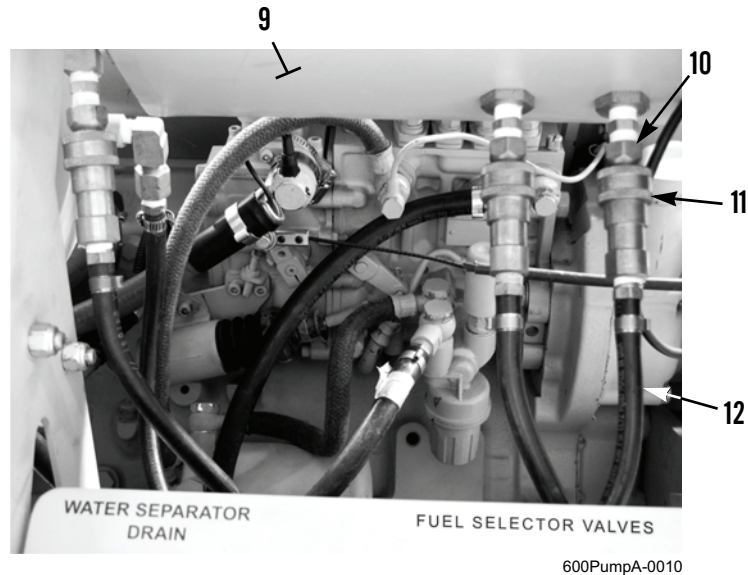

Figure 3. Quick Disconnect for Pressure Gauge Hose.
5. Under control panel box (Figure 3, Item 9), disconnect quick disconnect fitting (Figure 3, Item 11) from quick disconnect fitting (Figure 3, Item 10) to disconnect pressure gauge hose (Figure 3, Item 12).